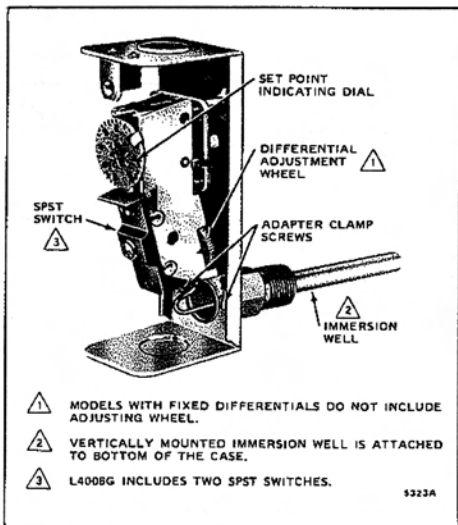

Fig. 1—Internal view showing L4006 (model with horizontal well).
1. Loosen screw (at top of case, above scale setting), and remove cover. Unravel 2 screws that secure adapter clamp. See Fig. 1.